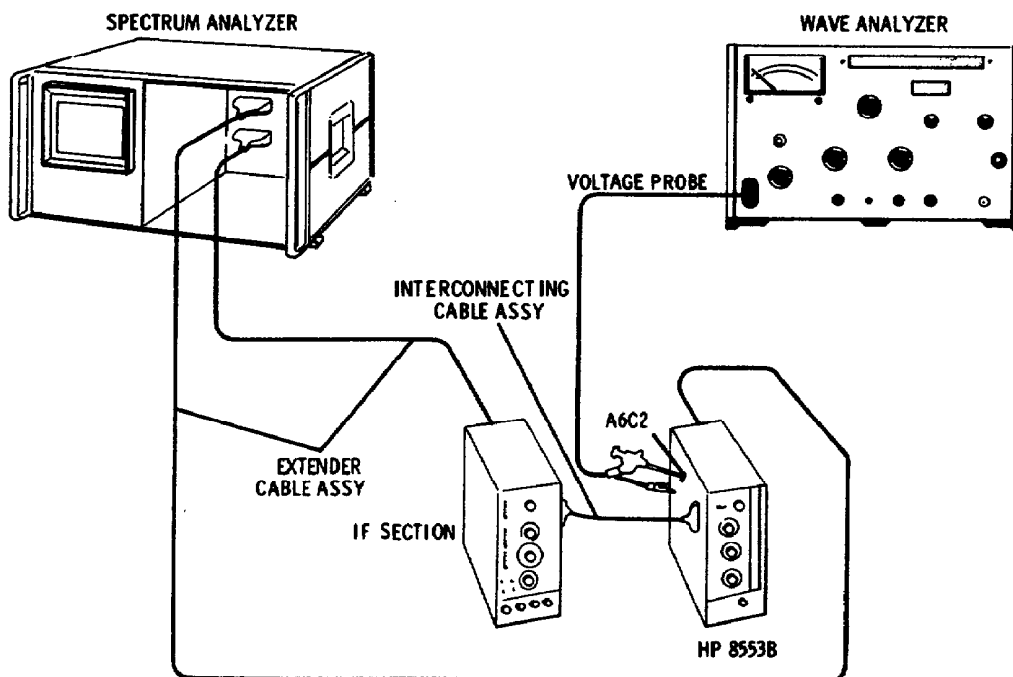

Figure 5-14. APC 100 kHz Rejection Adjustment Test Setup
4. If the 100 kHz residual signal is > -100 dBm, then connect the test setup shown in Figure 5-14, and make the following control settings: